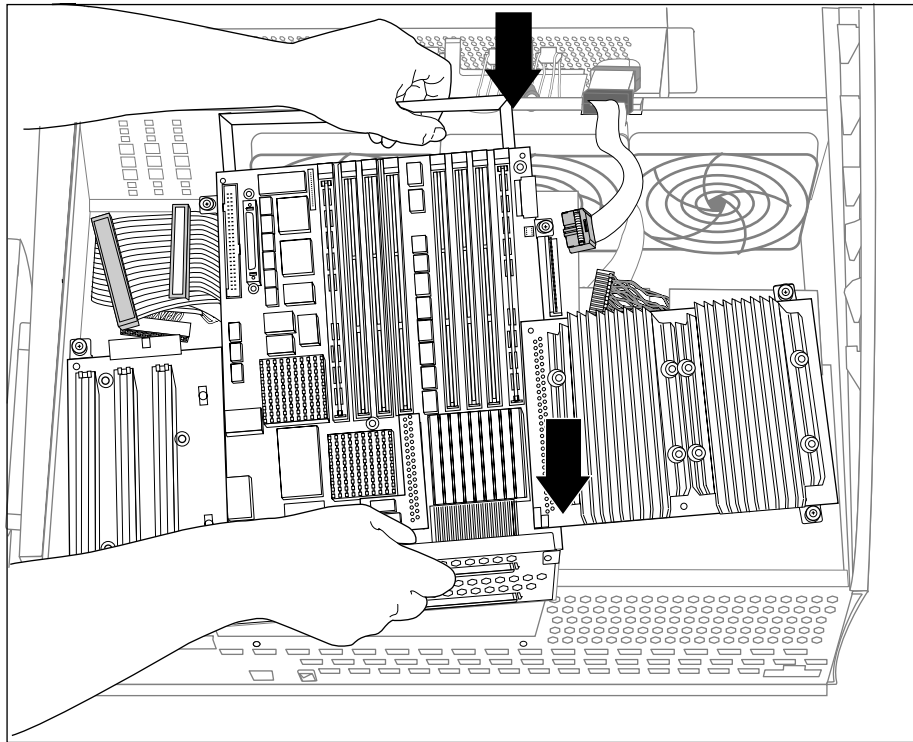

**Figure 10-9** Removing the Logic Carrier
6. Lift the logic carrier out of the system, as shown in Figure 10-9.